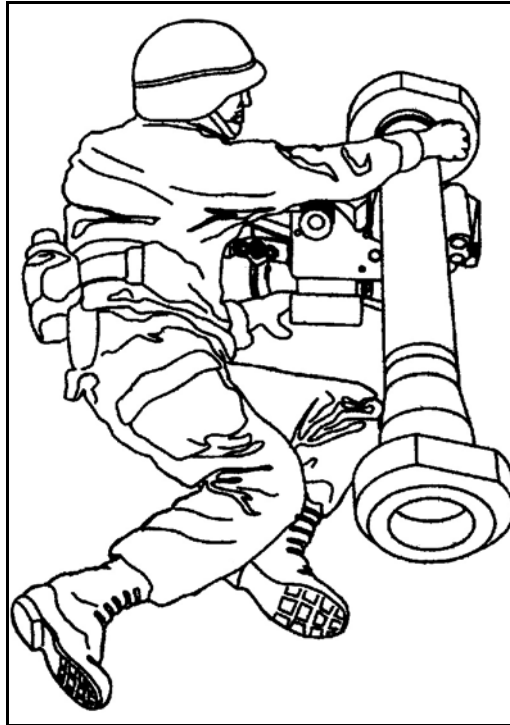

Figure 2-27. Remove the forward end cap.
(8) Remove the forward end cap (Figure 2-27).